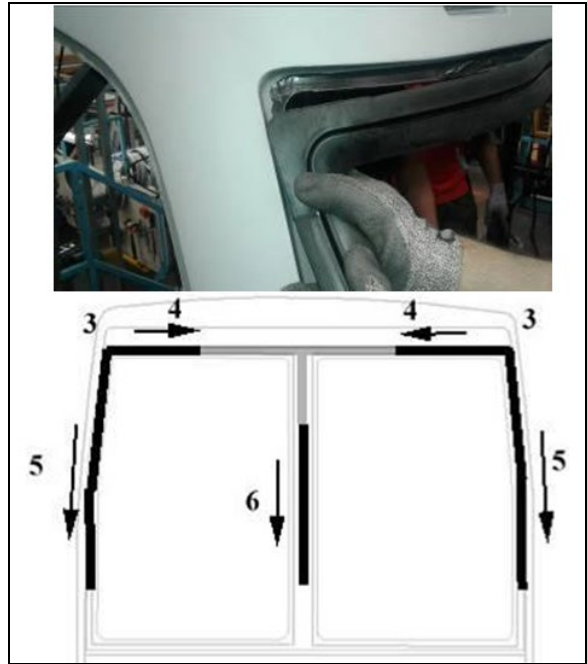

FIGURE 60
1. Begin installation of the rubber extrusion at the upper center (item 1, Figure 60). Make sure it is centered in relation to the vertical member.
2. Insert the rubber extrusion at the location identified #2 (Figure 60).